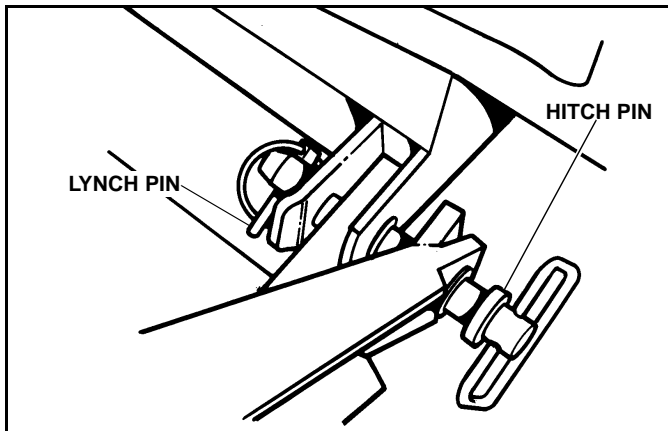

Figure 1-22
8. Lower the A-Frame into alignment with the lower Hitch Pin mounting holes of the vehicle Subframe and install the two lower Hitch Pins. Secure with Lynch Pins. (See Figure 1-22)